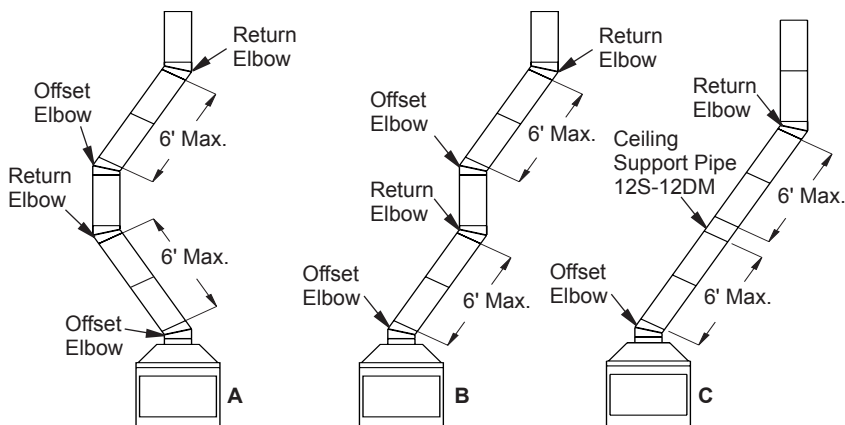

Figure 11 - Typical Offset Terminations
3. Maximum length of pipe between supports (return elbow or 12S-12DM) is 6' of angle run. Maximum of two 6' angle run sections per chimney system (see Figure 11, page 9).